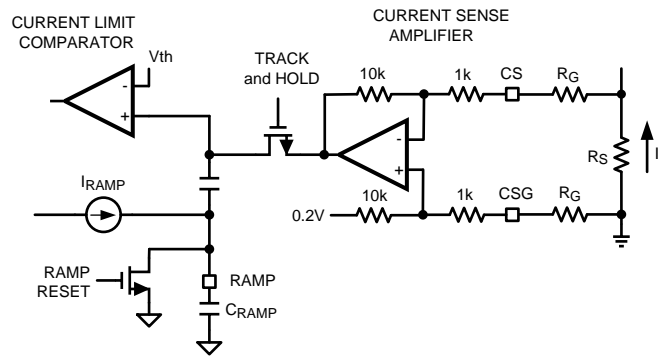

Figure 17. Current Limit and Ramp Circuit
The pedestal current sample is obtained from the current sense resistor (R_S) connected to the CS and CSG pins. It is sometimes helpful to adjust the internal current sense amplifier gain (A) to a lower value in order to obtain the higher current limit threshold. Adding a pair of external resistors R_G in a series with CS and CSG as shown in Figure 17 reduces the current sense amplifier gain A according to the following equation: